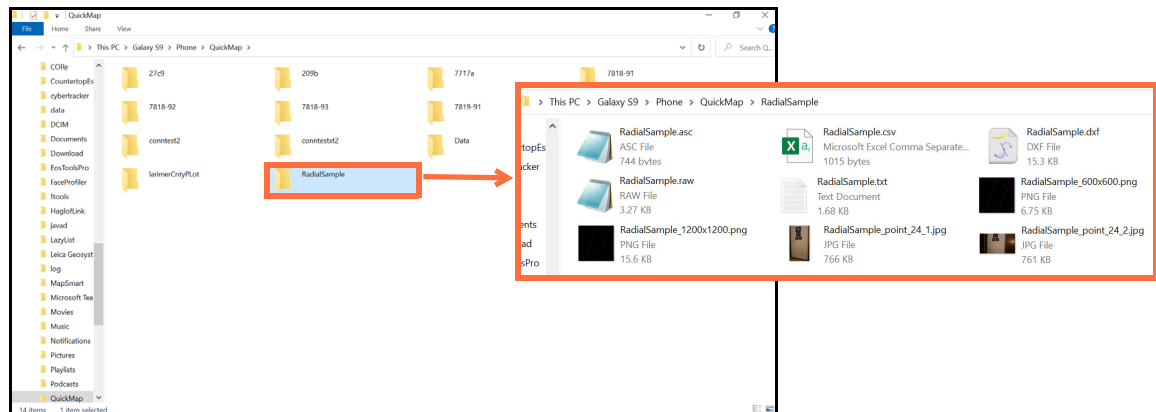

Figure 78
7. Double-click the folder that coincides with the survey name and the saved survey reports will display (Figure 78). To delete all saved reports on the tablet, highlight all the survey folders and right-click/delete with your mouse.